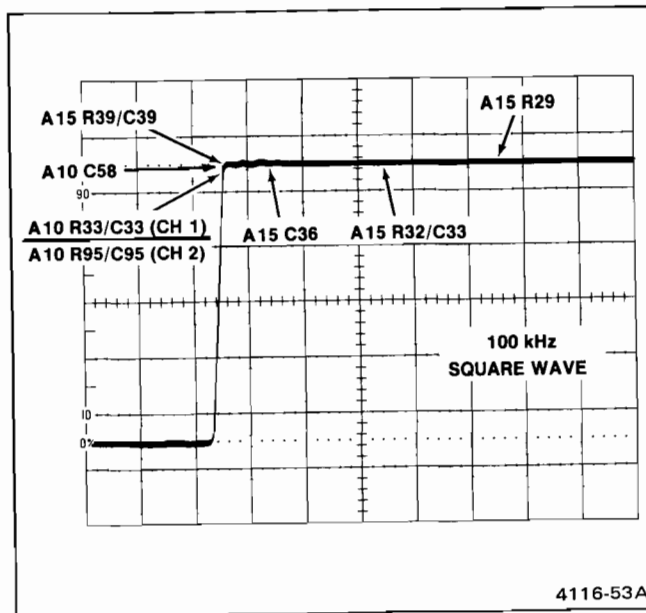

Figure 5-1. Areas affected by high-frequency compensation adjustments.
d. CHECK—Flat-top display aberrations are within $\pm 3\%$ (4.85 to 5.15 divisions). See Figure 5-1 for a typical display.
e. ADJUST—Vertical Output Amplifier HF Compensation (R29, R32, and C33) for the best flat-top display (see Figure 5-1).
g. ADJUST—Vertical Output Amplifier HF Compensation (C36) for the best flat-top display (see Figure 5-1).
i. ADJUST—CH 2 Preamp HF Compensation (R95 and C95) and Vertical Output Amplifier HF Compensation (R39 and C39) for best front corner (see Figure 5-1).
k. ADJUST—CH 1 Preamp HF Compensation (R33, C33 and C58) for best front corner (see Figure 5-1).